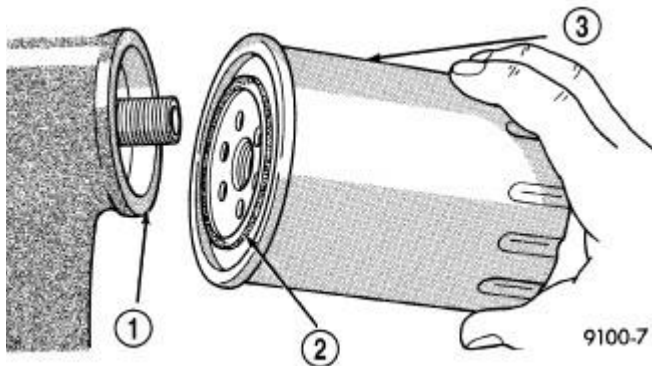

Fig. 185: Oil Filter Sealing Surface-Typical
1. Lightly lubricate oil filter gasket (2) with engine oil. See **Fig. 185**.
2. Thread filter (3) onto adapter nipple. When gasket makes contact with sealing surface, hand tighten filter one full turn, do not over tighten.